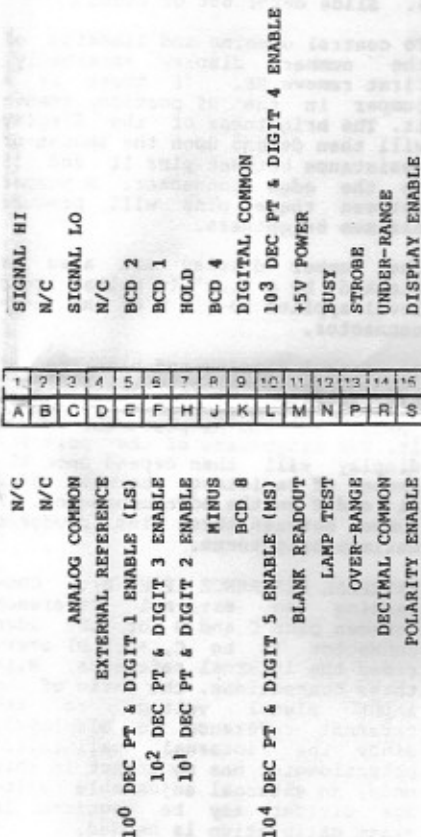

Figure 3. Wiring Connections
**BINARY CODED DECIMAL (BCD) OUTPUTS.** The 1, 2, 4, 8 multiplexed BCD outputs are available on connector pins 6, 5, 8 and K, respectively. When digit 5 enable (pin L) goes to a "low" logic level (zero), the 1, 2, 4 and 8 BCD outputs represent digit 5, the most significant digit. When digit 4 enable (pin 10) goes "low", the BCD outputs represent digit 4, and so on, to the least significant digit. For connector pin information refer to figure 3. Digits are scanned from most significant to least significant digit. Each digit goes "low" for approximately 1-2/3 milliseconds, and there is no gap between successive digit enables except when the meter goes into overload. For the BCD outputs, "high" = true = +5 volts.